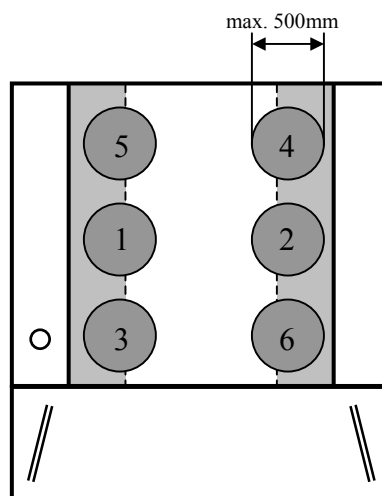

Figure 2
- a) Position all weights along the outside edge of the clearance width. In this case, the diameter of the weights must not exceed 500 mm (Fig. 2).